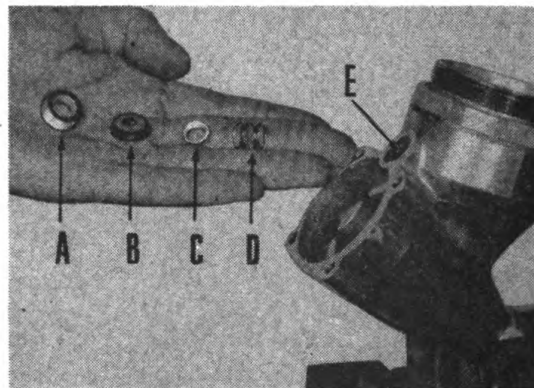

Figure 208
(3) Remove retaining screw ("A" Figure 208) with a large screwdriver. Then remove leather packing ("B"), washer ("C"), and spring ("D"). (See Figure 208.)
(4) Remove piston and cup leather assembly from the handle casting, and check piston for a snug fit in hole in head casting. If piston hole is not worn, replace the packing ("A" Figure 208), and reassemble. If the piston hole is worn or scored, both the head casting and piston must be replaced as a unit.
(5) When reassembling head casting to handle casting, be sure that plug disc ("E" Figure 208) is in place.